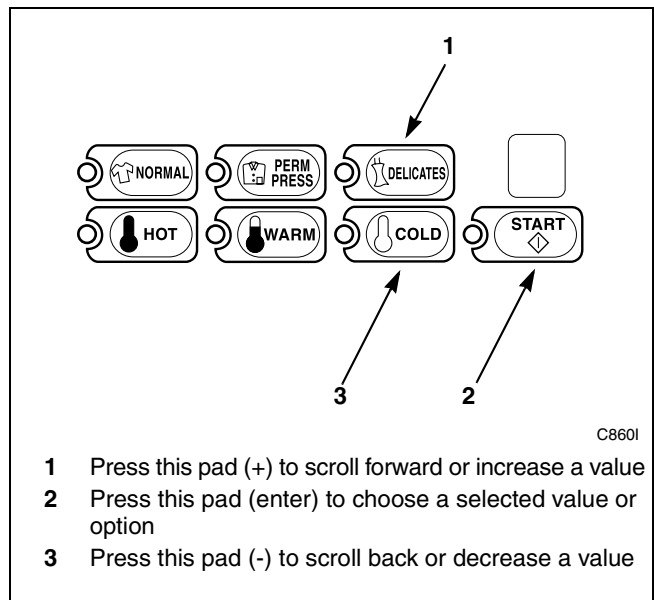

Figure 11
5. Press the DELICATES (+) or the COLD (-) keypad to increase or decrease the value of the fifth digit. Refer to *Figure 11*.